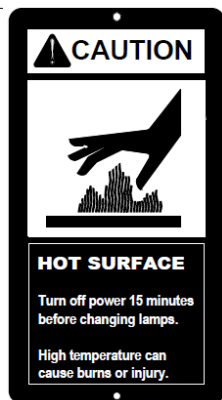
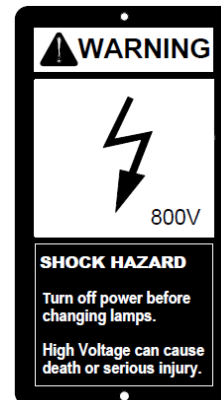

Figure 2c: Hot surface warning label.
Figure 2d: Shock hazard warning label.
- Warning labels (Figure 2c and Figure 2d) indicate heat and electric shock hazards inside the Q-SUN Xe-1 tester.